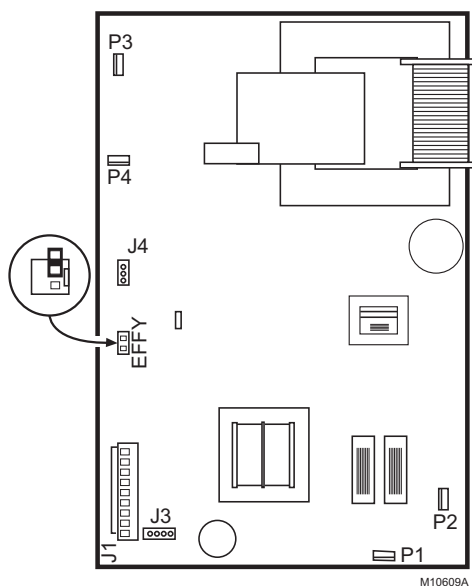

Fig. 14. Moving EFFY shorting bar to reduce ozone production about 20 to 25 percent.
- e. Locate the EFFY shorting bar on the power supply. See Fig. 14. Remove the shorting bar and reinstall on only one pin. Ozone will be reduced and the shorting bar will be available for reinstallation, if needed.